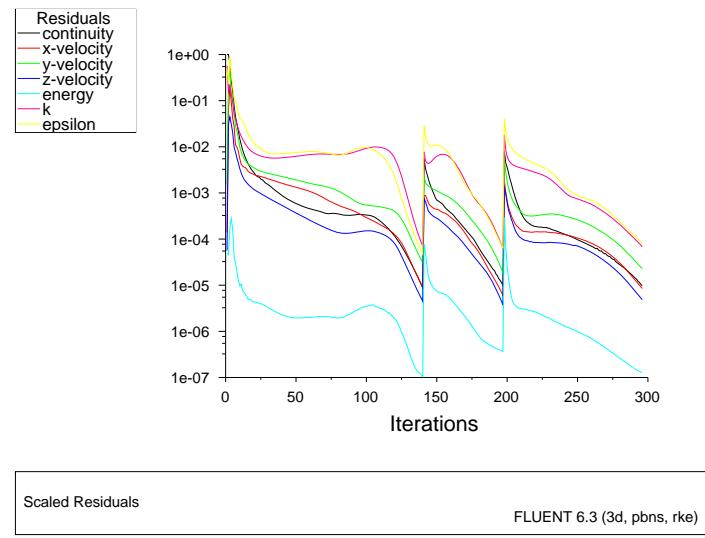

Figure 1.18: The Complete Residual History
*The solution will converge after approximately 100 additional iterations (Figures 1.18 and 1.19).*